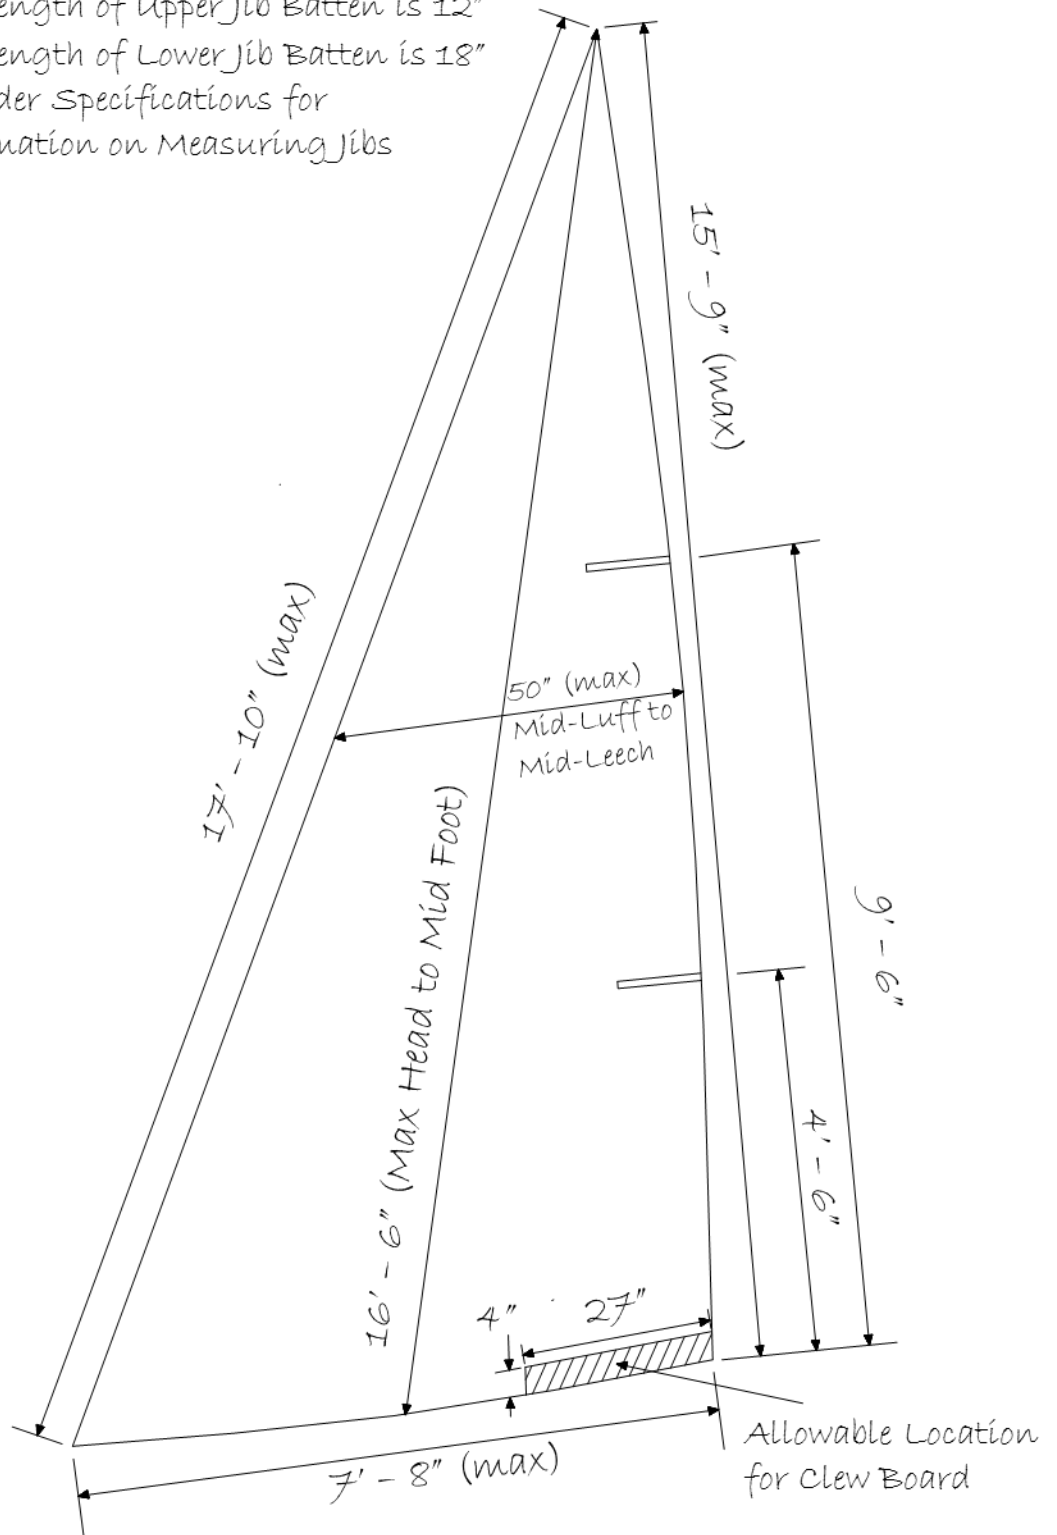
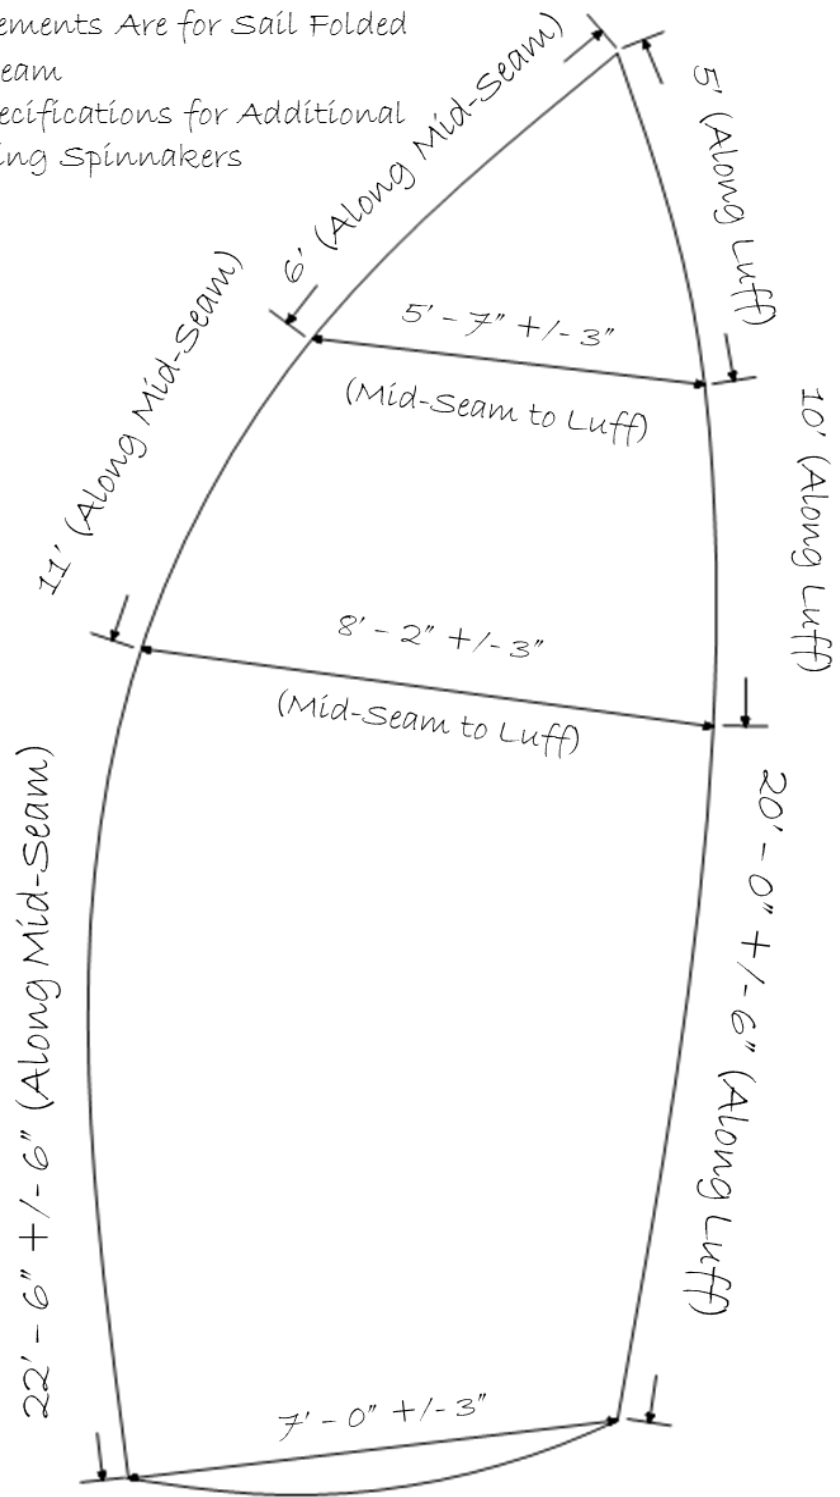

Figure 5 Jib Measurements
Figure 6 Spinnaker Measurements
- iii. There are no minimum measurements. Maximum measurements are as shown in Figure 5.
- v. Up to two battens as shown in Figure 5 are permitted.
- vi. A clewboard of any material is permitted in the jib, which shall be located as shown in Figure 5.
- vii. A minimum number of five (5) snaps or hanks equally spaced along 80 percent of the
- iii. Dimensions and tolerances are as shown in Figure 6.